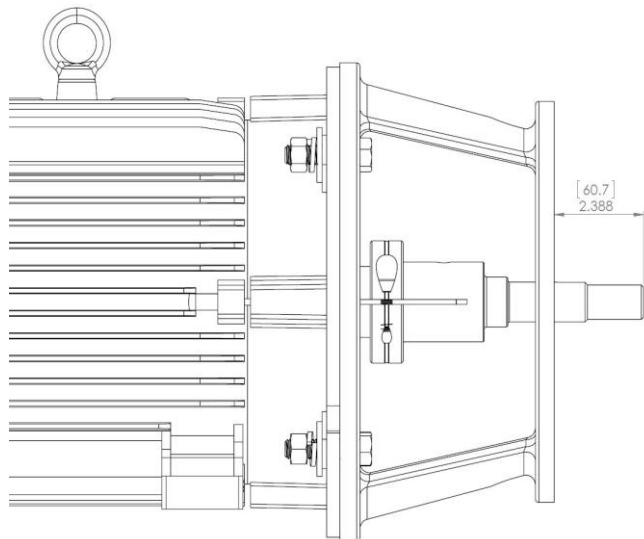

Figure 2: Shaft to adapter measurement
3) Measure the stub shafts axial location with respect to the outer-most face on the adapter as shown in Figure 2. This will dictate the impeller clearance to the pump casing. Once the dimension is set, tighten the collar screw to 20 ft-lbs [27 Nm]. Ensure that the collar [7] remains all the way against the shoulder on the stub shaft [6] (in the outboard direction). **Once the stub shaft's axial location is set, do not remove the screw unless you believe it is not in its original location.**